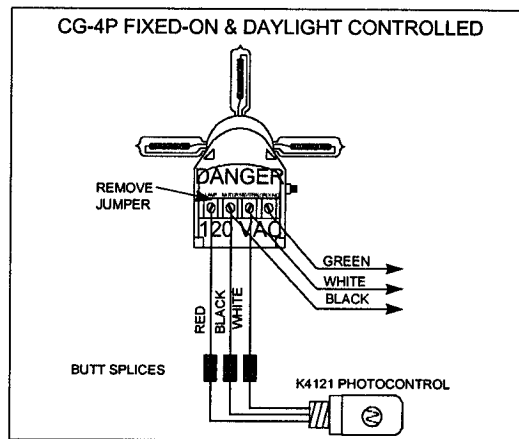

Figure 2-5
- n. If the light burns fixed-on and is daylight controlled, install an Intermatic K4121 photocontrol in an unused cable entrance (a 3/4" to 1/2" reducer pipe bushing is needed to install this device in the lantern) as shown in Figure 2-5. Crimp connectors and 12" of color coded 16-18 AWG wire are necessary to extend the leads of the K4121 photocontrol.